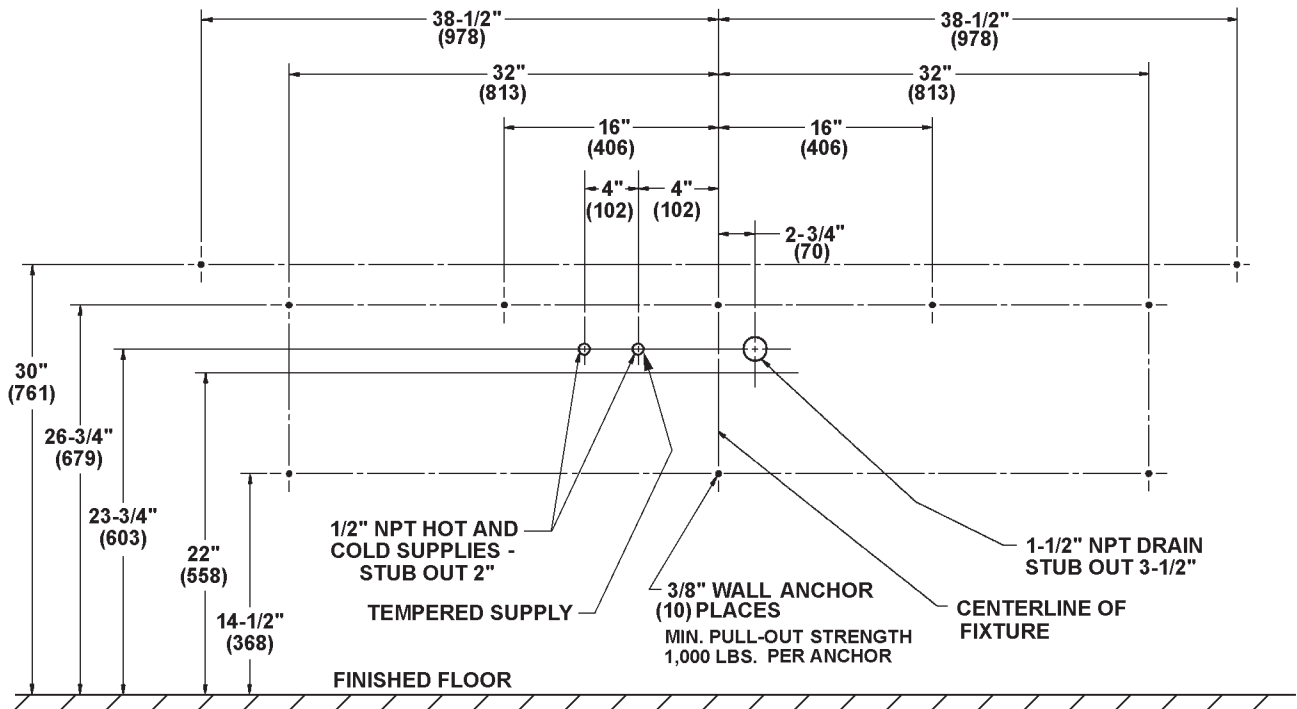

Figure 1b
Note: See Figure 1a below (for Standard Height) and Figure 1b on page 6 (for Juvenile Height) when roughing in the Express®.
**⚠ IMPORTANT:** Dimensions shown in Figure 1a are for Juvenile Height (grades Pre-K thru 5 or 6) and in Figure 1b for Juvenile Height (grades 6 thru 8 or 9)
3. Install ten 3/8" wall anchors with a minimum pull-out rating of 1,000 lbs. (supplied by installer) at the locations shown in Figure 1a below or Figure 1b on page 6.